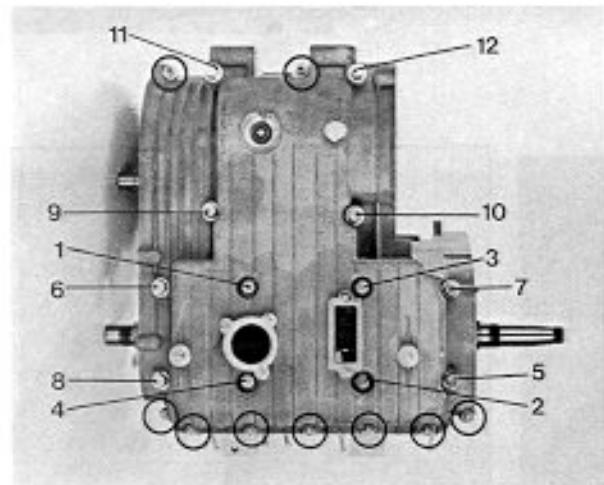

Fig. 159
- Following the order shown in figure 159, progressively and evenly tighten the nuts with a torque wrench.